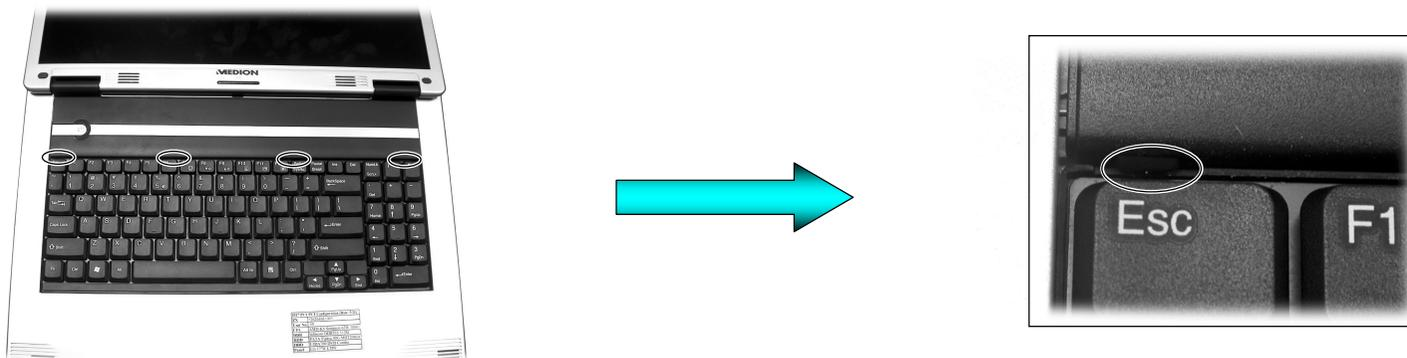

Figure 2-2 Loosen the four latches
3. Loosen the four latches locking the keyboard. (Figure 2-2)